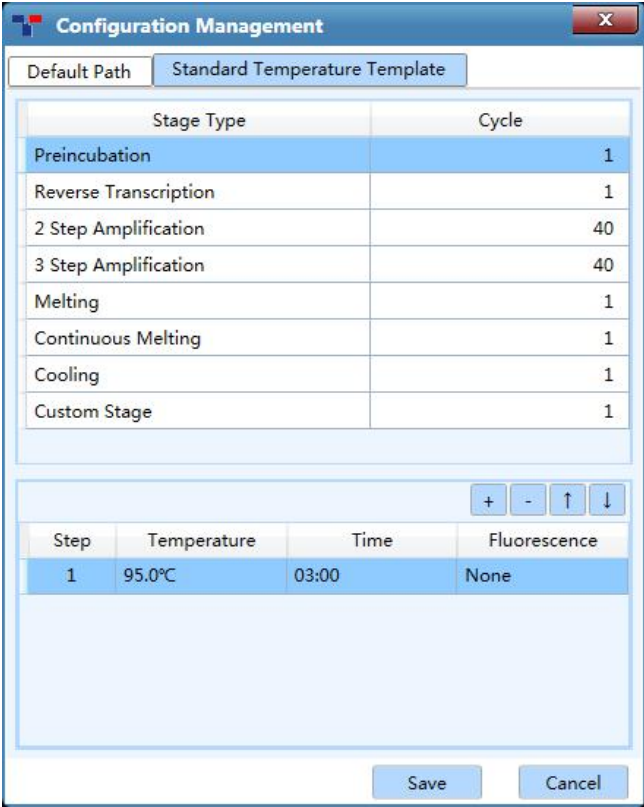

Figure D-3.6 Configuration Management interface - Standard Temperature Template tab
- **Standard Temperature Template** tab: 7 predefined standard temperature templates are displayed in this tab, as shown in figure D-3.6. These templates are provided by the application software for temperature program stage settings.